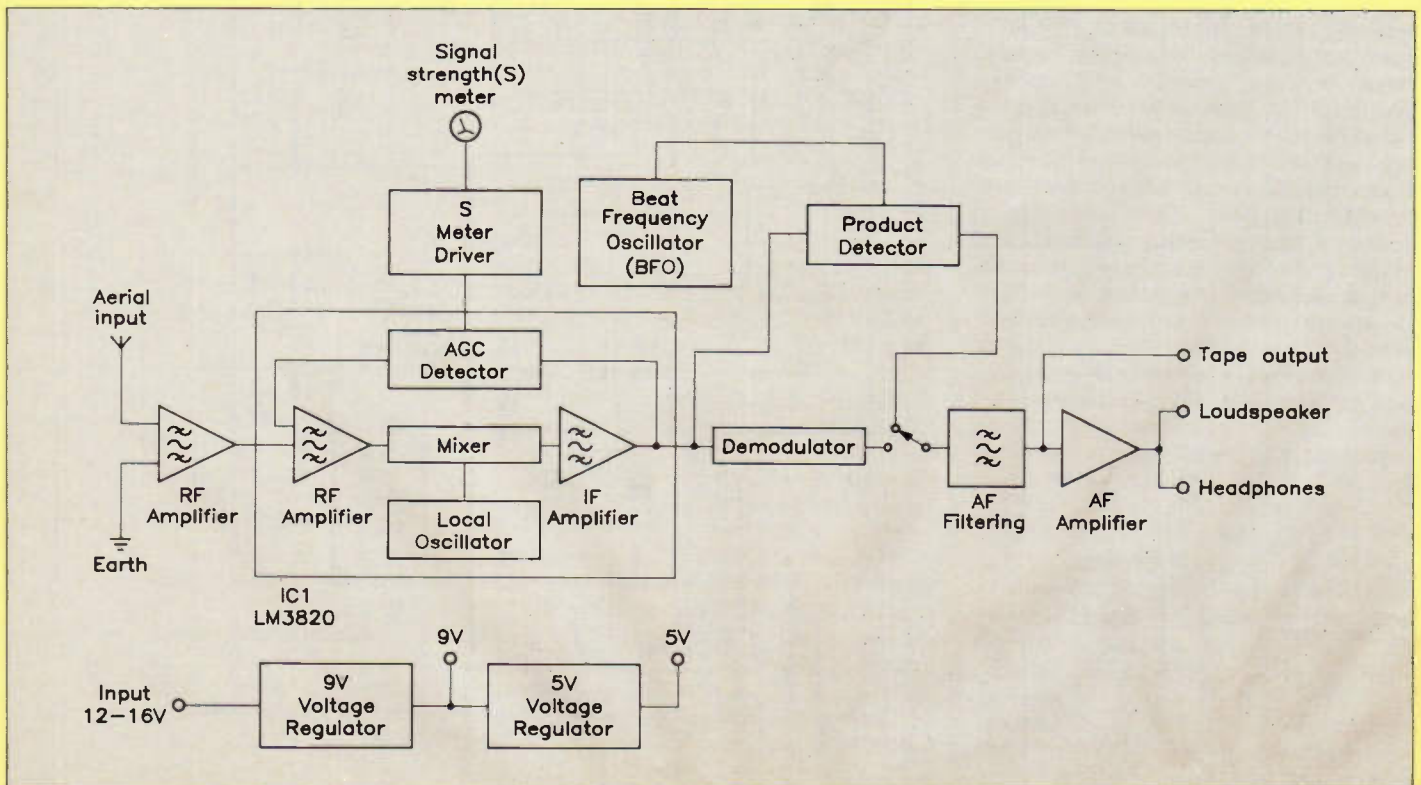
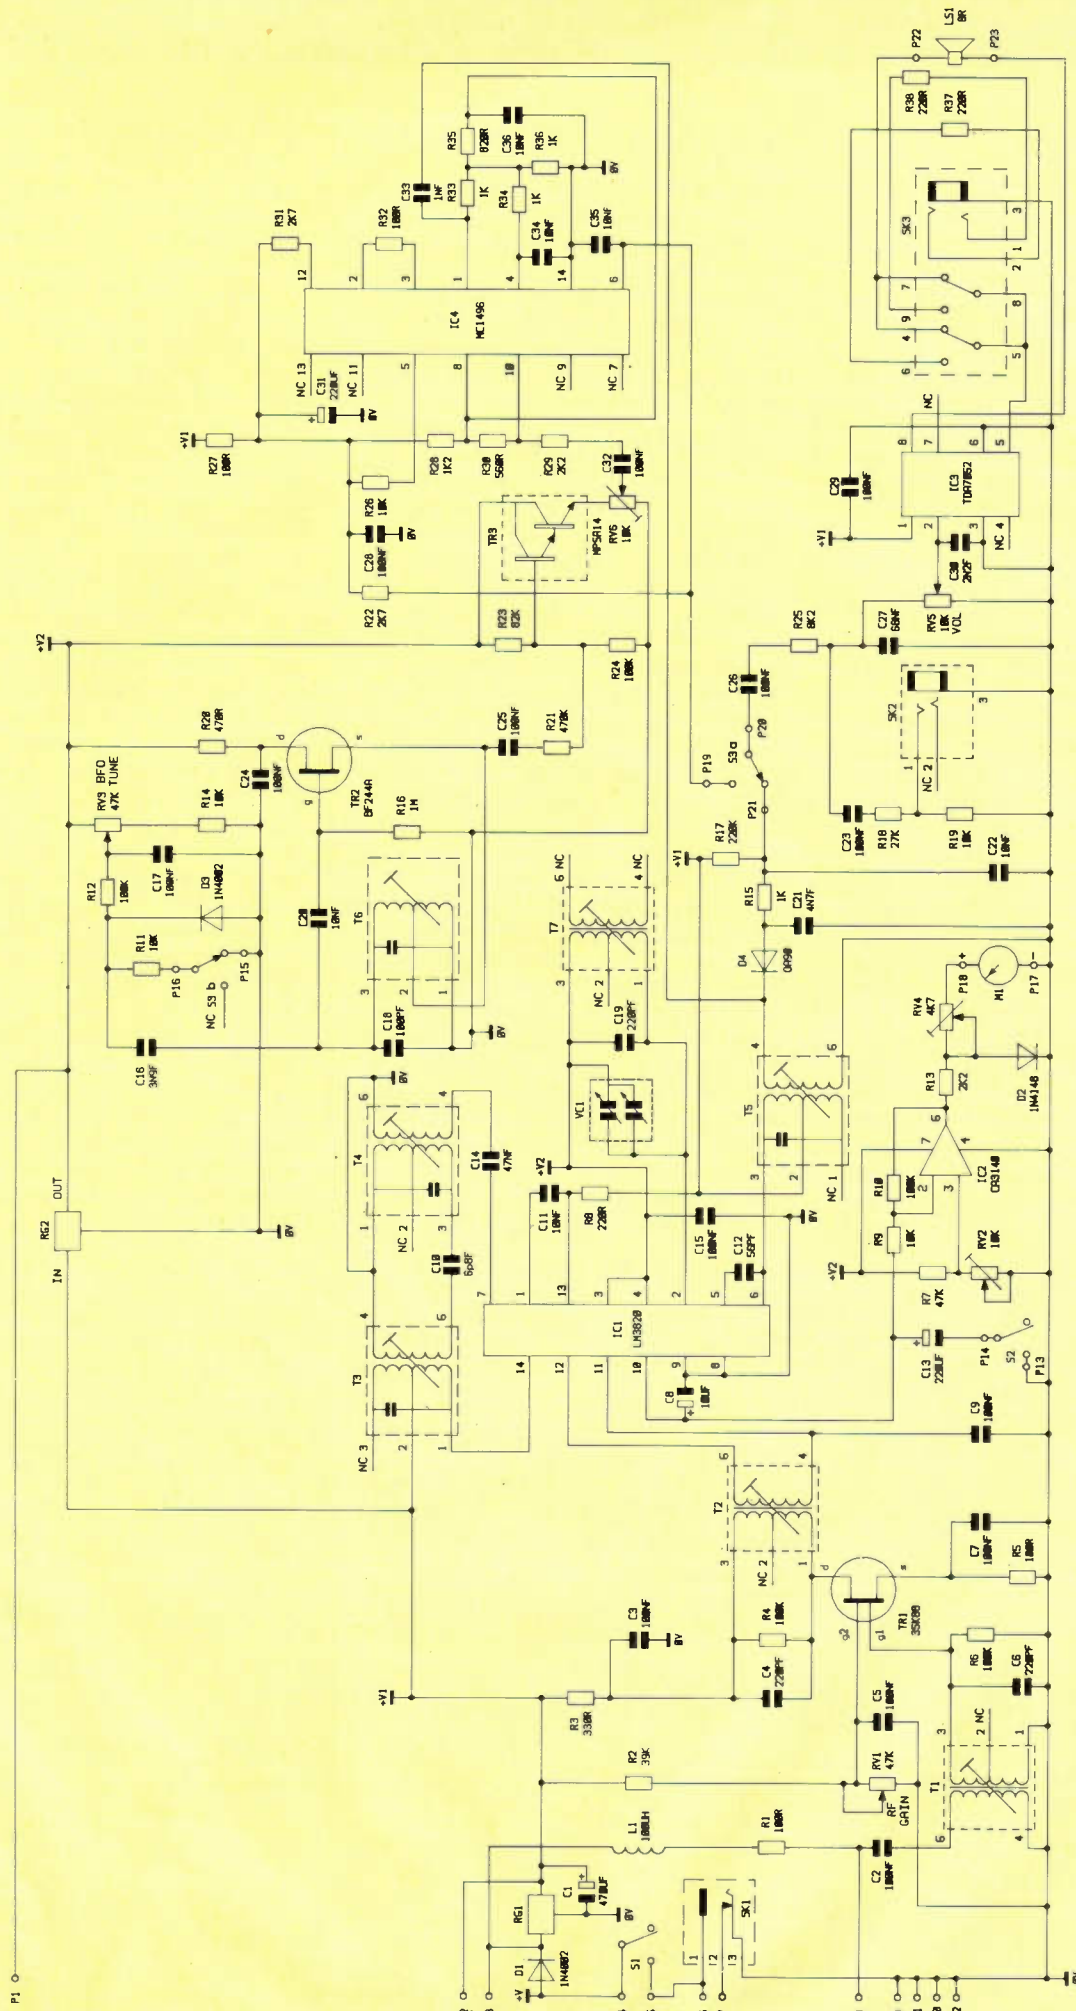

Figure 1. 160m receiver block diagram.
Figure 2. Circuit diagram.
In order to illustrate the operation of the receiver, a block diagram is given in Figure 1 showing the basic stages of the circuit. Referring to Figure 2, it may be seen that the receiver is based around the LM3820 AM radio sub-system IC (IC1). This IC forms the basis of an AM superheterodyne receiver, containing the mixer and most of the necessary RF and IF amplifiers. Signals coming in from the aerial are initially filtered by T1/C6 and amplified by TR1 which is a dual gate FET. The signal is applied to gate 1 of the transistor and gate 2 is used to control the gain of the stage via RF gain control RV1. The amplified output from TR1 is filtered by C4/T2 and fed to the RF amplifier input of IC1. After further RF amplification, the signal is fed to the internal mixer, where it is mixed with the local oscillator. Variable capacitor VC1, T7 and associated circuitry determine the operating frequency of the local oscillator. The output from the mixer contains a wide range of frequencies and it is necessary to separate signals of the required intermediate frequency (IF) from the unwanted signals which are present. IF transformers T3, T4 and T5 together with associated components perform the IF filtering and the filtered